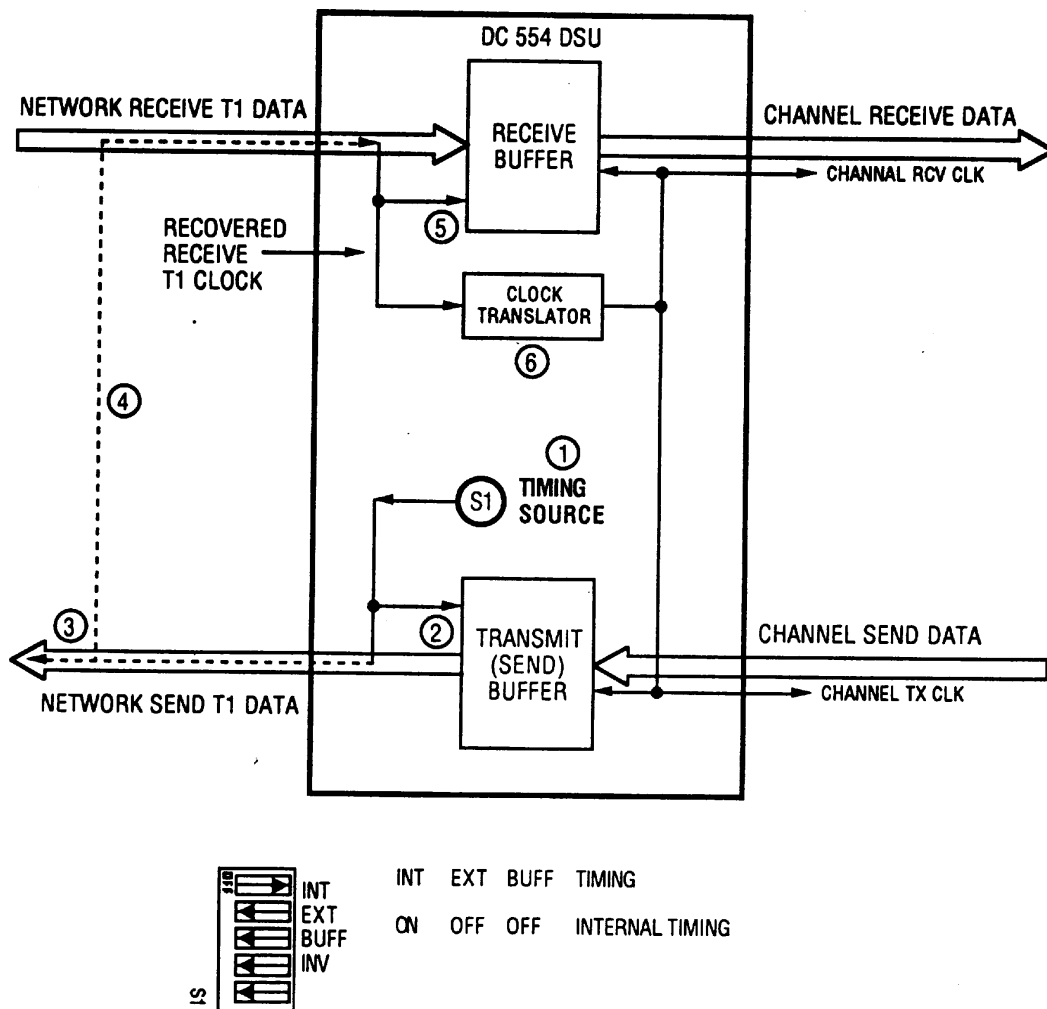

Figure 5-2 Internal Timing
With Internal Timing, illustrated in Figure 5-2, the DC 554A DSU provides the send timing source (1) for T1 data output from the transmit buffer (2) to the network. (This clock satisfies the requirements of a Stratum 4, Level II clock, as defined in AT&T Technical Reference 62411.) The remote DSU uses this as its timing reference (3) and loops it back to the DC 554A DSU (4). The DC 554A DSU recovers the receive T1 clock from the network receive T1 data and uses it to clock T1 data into the receive buffer (5). The DC 554A DSU also translates (6) the receive T1 clock to provide the channel transmit and receive clock signals on the appropriate channel interface leads. Select Internal Timing when using the DC 554A DSU in a private network that does not provide timing (e.g., a non-DACS based service).